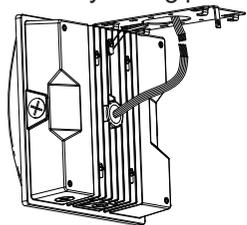

Figure 6
4. Hang the fixture by the plate (figure 6), then connect to local power supply with necessary wiring protection .